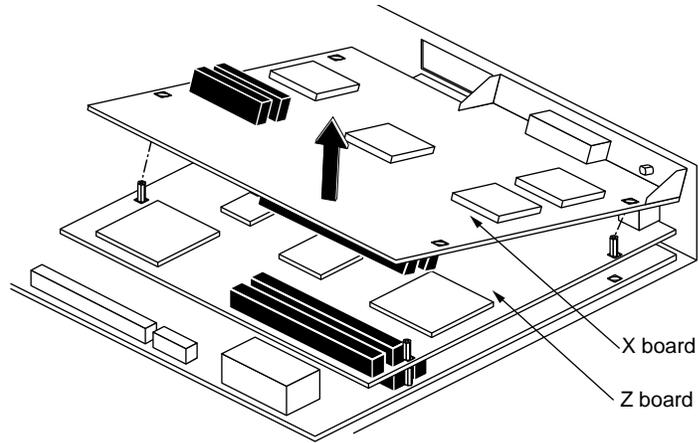

Figure 1-14 Disconnecting the X Board from the Z Board
3. Disconnect the X board from the Z board, by grasping the board firmly on the side close to the system disk drive and pulling up to disconnect the two connectors underneath the board. See Figure 1-14.